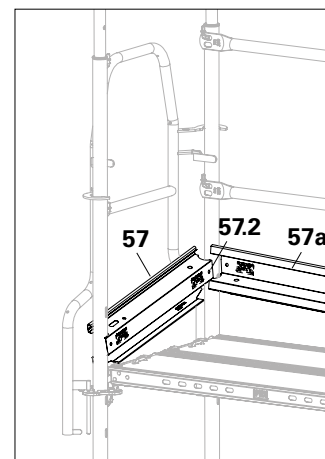

Fig. A3.11
6. Lower the toe boards simultaneously. → The toe board is installed. (Fig. A3.11)